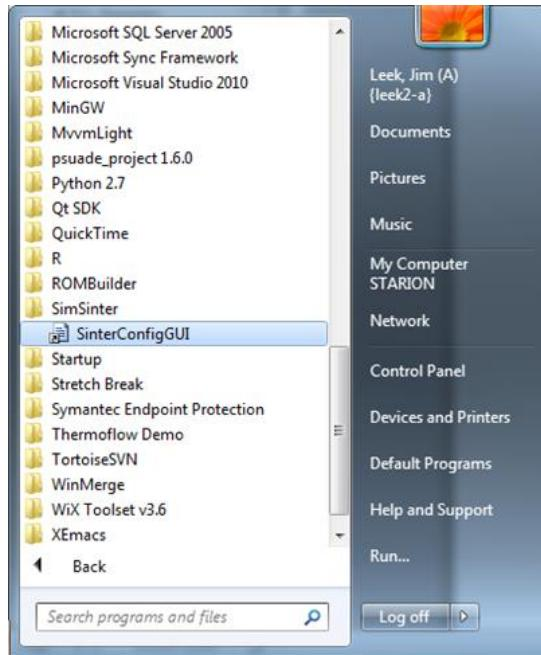

Figure 26: Start menu, SinterConfigGUI
1. Open the “SinterConfigGUI” from the “Start” menu, as shown in Figure 26.